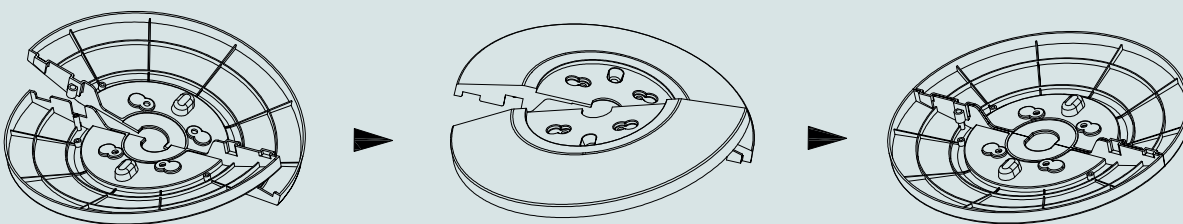

FIG. 1
- Take out the two parts of the base from packing box. Then, align the centers of the two parts of the base and place them in a crossed form. Rotate one of the two bases to align its hole site and make it stuck correctly (Fig. 1)